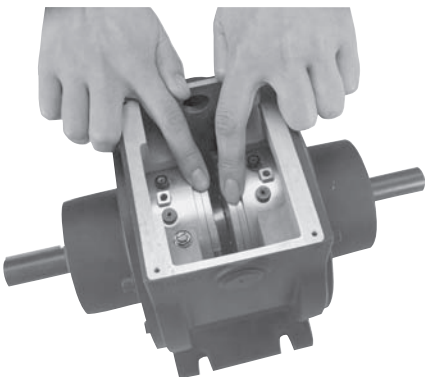

Figure 6
- Set the autogaps by pressing each armature into contact with its mating component (either the magnet or rotor) and then releasing it. (Figure 6)